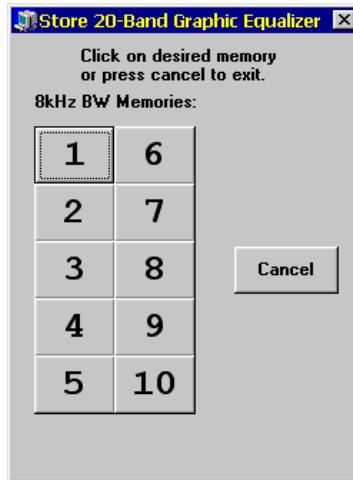

Figure 3-13 Tutorial Store 20-Band Graphic Equalizer Window
35. Click on the **Store** button to bring up the Store 20-Band Graphic Equalizer window as in Figure 3-13.